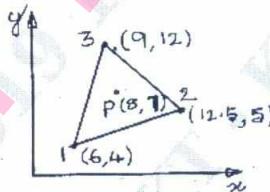

Fig. Q3 (b)
- b. Compute the shape functions N_1, N_2 and N_3 at point P(8, 7) for the constant strain triangular element shown in Fig. Q3 (b). (06 Marks)